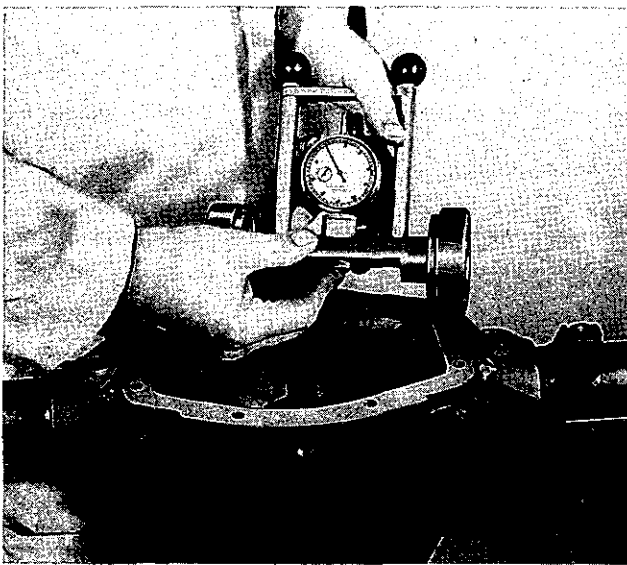
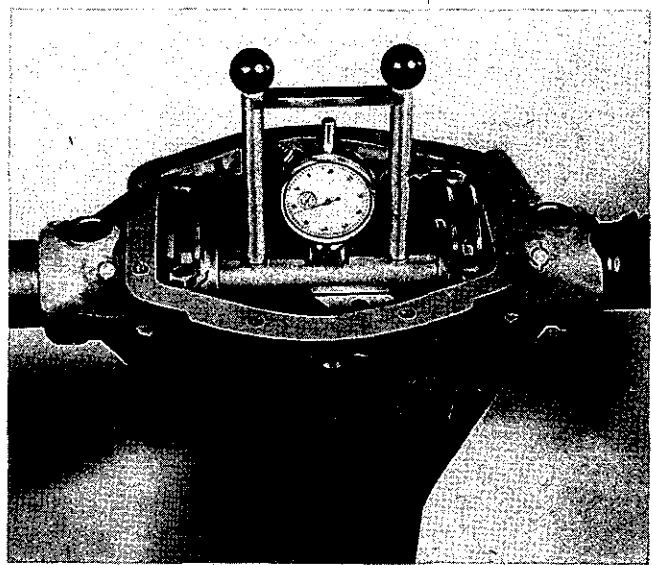

Fig. 13. "Zeroing" the fixture for estimating Pinion Bearing Shims—Tool No. M.84.
Fig. 14. Pinion Shimming Fixture in Position—Tool No. M.84.
1. The fixture shown in Fig. 13 is inserted as shown in Fig. 14 in the axle casing and used to assess the shim thickness, which is required under the pinion head bearing, to bring the pinion into its correct datum position mentioned earlier.
3. Having inserted the measured pack of shims, the thickness of which was assessed with the fixture shown in Fig. 13 the pack of shims is inserted on the head bearing abutment face